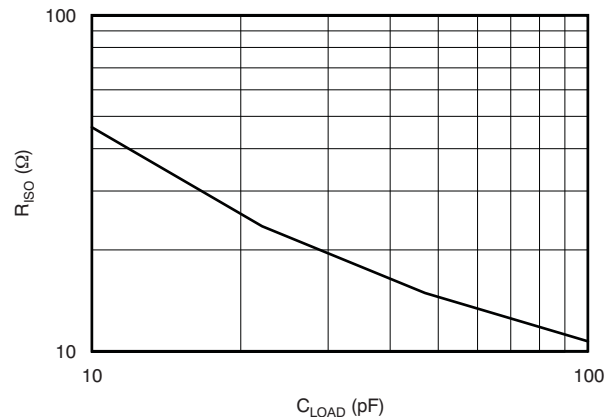

Figure 17.
The Typical Characteristics show the recommended  $R_{ISO}$  versus Capacitive Load performance (see Figure 17) and the resulting frequency response with a 1-k $\Omega$  load. Note that larger  $R_{ISO}$  values are required for lower capacitive loading. In this case, a design target of a maximally-flat frequency response was used. Lower values of  $R_{ISO}$  may be used if some peaking can be tolerated. Long PCB traces, unmatched cables, and connections to multiple devices can easily degrade the performance of the OPA653. Always consider this effect carefully, and add the recommended series resistor as close as possible to the OPA653 output pin (see the Board Layout section). With heavier loads (for example, the 100- $\Omega$  load presented in the test circuits used for testing the Typical Characteristics), the OPA653 is very robust;  $R_{ISO}$  can be as low as 10  $\Omega$  with capacitive loads less than 5 pF and continue to show a flat frequency response.
**d) Connections to other wideband devices** on the board may be made with short direct traces or through onboard transmission lines. For short connections, consider the trace and the input to the next device as a lumped capacitive load. Relatively wide traces (50 mils to 100 mils, or 1.27 cm to 2.54 cm) should be used. Estimate the total capacitive load and set  $R_{ISO}$  from the plot of *Recommended  $R_{ISO}$  vs Capacitive Load* (Figure 17). Low parasitic capacitive loads (less than 5 pF) may not need an  $R_{ISO}$  because the OPA653 is nominally compensated to operate with a 2-pF parasitic load.
Higher parasitic capacitive loads without an  $R_{ISO}$  are allowed as the signal gain increases (increasing the unloaded phase margin). If a long trace is required, and the 6-dB signal loss intrinsic to a doubly-terminated transmission line is acceptable, implement a matched impedance transmission line using microstrip or stripline techniques (consult an ECL design handbook for microstrip and stripline layout techniques). A 50- $\Omega$  environment is normally not necessary onboard, and in fact a higher impedance environment improves distortion as shown in the distortion versus load plots. With a characteristic board trace impedance defined based on board material and trace dimensions, a matching series resistor into the trace from the output of the OPA653 is used as well as a terminating shunt resistor at the input of the destination device. Remember also that the terminating impedance is the parallel combination of the shunt resistor and the input impedance of the destination device: this total effective impedance should be set to match the trace impedance. If the 6-dB attenuation of a doubly-terminated transmission line is unacceptable, a long trace can be series-terminated at the source end only. Treat the trace as a capacitive load in this case, and set the series resistor value as shown in the plot of  *$R_{ISO}$  vs Capacitive Load* (Figure 17). This configuration does not preserve signal integrity as